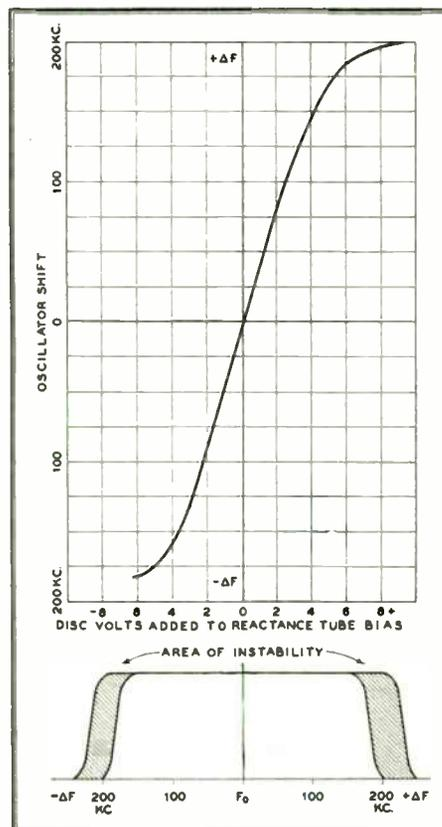

FIG. 77. HOLDING ACTION OF A TYPICAL AFC REACTANCE TUBE CIRCUIT
**Holding Action** ★ Fig. 77 shows the holding action of a typical reactance tube
circuit, where the shaded portion represents the area of instability. When the signal intensity decreases, due to fading, the control action is lost and is not regained unless the receiver is retuned. A sudden drop in line voltage could also reduce the holding action sufficiently that the desired signal would be completely lost. As shown in Fig. 77, the AFC circuit takes control at mid-frequency and holds the output substantially flat until the signal is detuned 200 kilocycles, at which point the AFC loses control and the output drops rapidly to zero. To regain the signal, the receiver must be retuned to nearly the mid-frequency, since the AFC